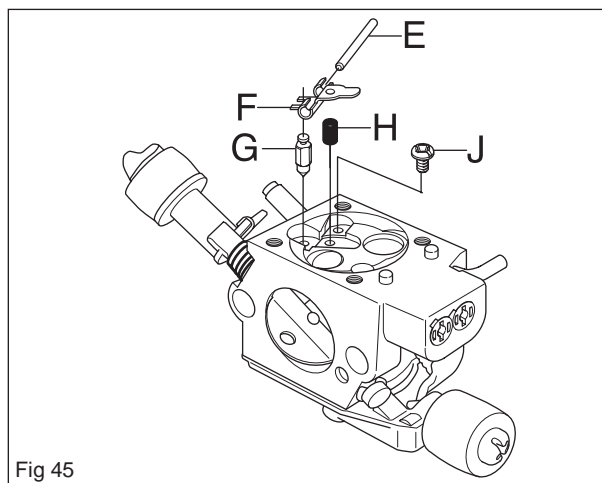

Fig 45
5. Assemble needle valve G with lever arm F, shaft E and spring H, and tighten screw J, see figure 45.